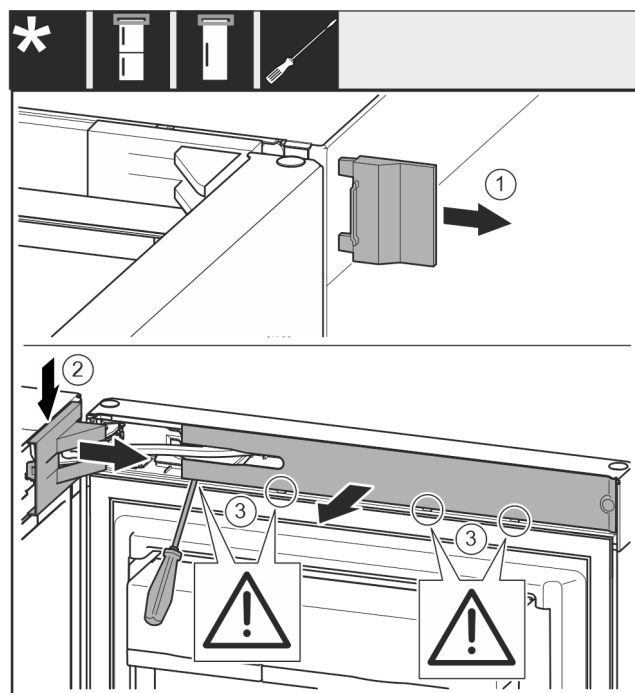

Fig. 10
- ▶ Remove cover Fig. 10 (1).
- ▶ Disengage and loosen the swap bearing block cover Fig. 10 (2).
- ▶ Remove the swap bearing block cover Fig. 10 (2).
- ▶ Use a slotted screwdriver to unlatch the trim Fig. 10 (3) and swing it to the side.